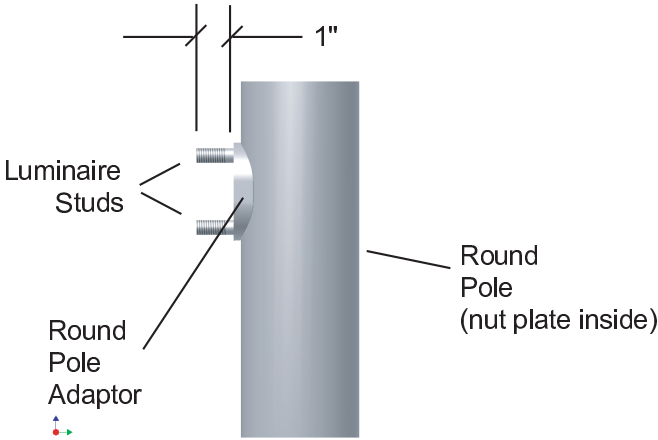

FIGURE 4
B. DIRECTLY TO ROUND POLE - FIGURE 4
4. With nut plate inside pole, thread luminaire mounting studs thru round pole adaptor, then thru top and bottom pole holes, then into nut plate. See Figure 4.